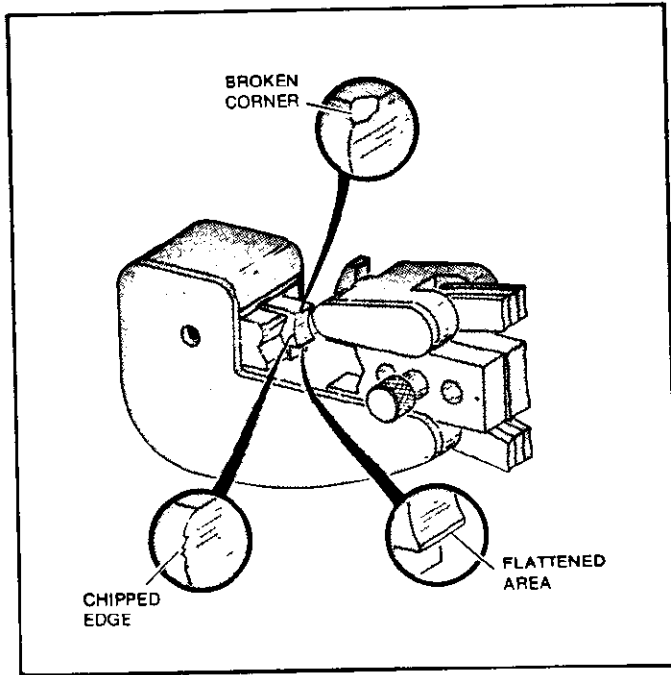

Figure 7
- (b) Visually inspect the die closure surfaces for flattened, broken or chipped conditions. Although dies may gage within permissible limits, worn or damaged die closure surfaces are objectionable and can affect the quality of the crimp. Examples of possible damaged die closure surfaces are shown in Figure 7.